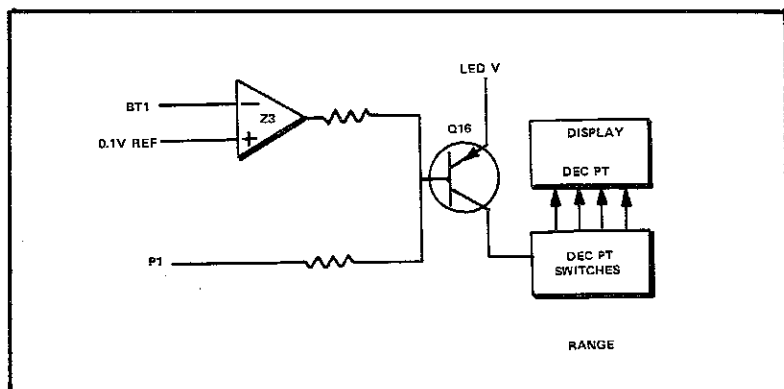

Fig. 4-11 Low Battery Sensing Schematic
b. The display indicates a low battery (or low line voltage when no battery is installed) by blinking the decimal point. Figure 4-11 is a simplified schematic illustrating how this operation is performed. Amplifier Z3-1 is configured as a comparator for the battery voltage and the 0.1V REF. When the battery voltage is less than the reference value, its inverted output at Z3-1 enables Q16. Program control signal P1, which has a nominal frequency of 2.5 Hz, interrupts the LED supply voltage at that frequency.